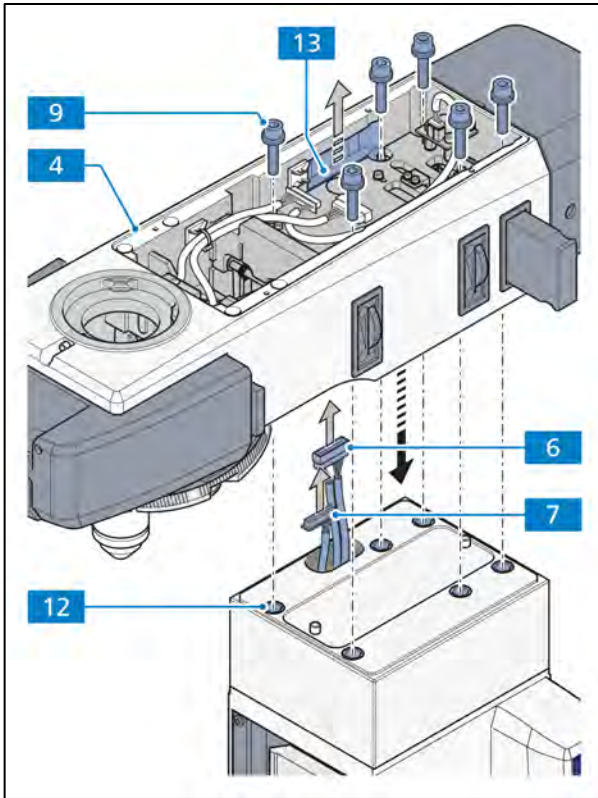

Fig. 3-57 Mounting the upper stand part on the sample space extension
- Carefully, thread the cables (Fig. 3-57/6 and 7) from the bottom through the lateral opening (Fig. 3-57/13) of the upper stand part (Fig. 3-57/4).
- Place the upper stand part on the sample space extension (Fig. 3-57/12) and tighten it with the 6 Allen screws (Fig. 3-57/9) of the upper stand part.